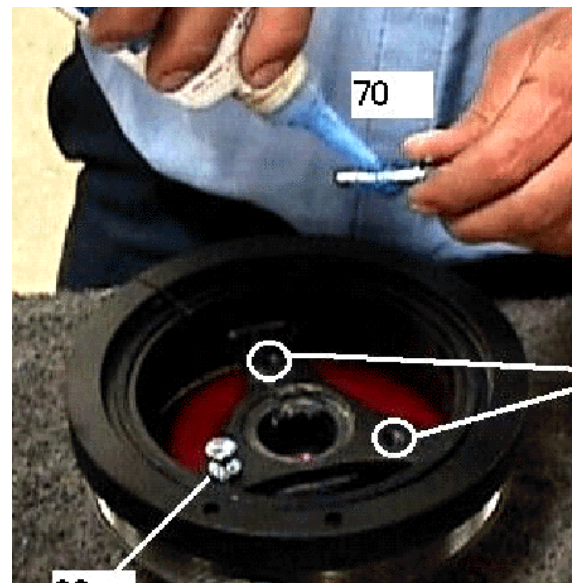

Figure 5
12. Coat the tip of each 7/16-inch bolt with a drop of blue loctite (FIGURE 5).
13. Install the three bolts with washer & loctite already on into the harmonic balancer (FIGURE 5).